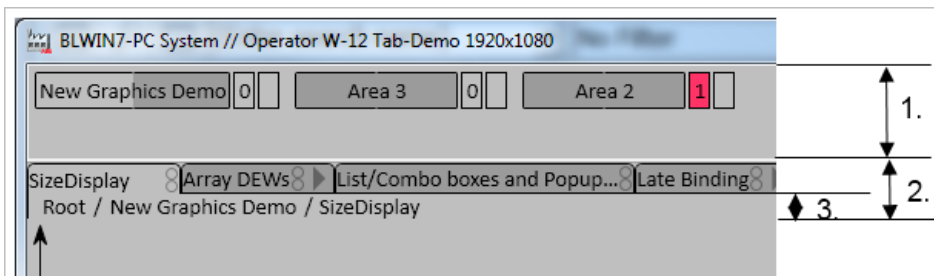

Figure 96. Heights. 1-Button Height, 2-Tab Height, 3-Breadcrumb Height
- **Height** - Specifies the height of the button area. This can be changed to view one or two rows of buttons when more number of buttons are being displayed within screen width. The button height decides the tab height. The tab height will be the pane height minus the button height (see Figure 96). If breadcrumbs are used, tab height will be pane height minus button height minus breadcrumb height. Tabs will always occupy the remaining space within a pane.
**Area Height** specifies the height of the breadcrumb list. The area height decides the tab height. The tab height will be the pane height minus the breadcrumb height (see Figure 96). To ensure the visibility of the tabs and the breadcrumb, the user must update the height specified for the tab in the **XML** tab of the **Screen Layout** aspect on the Tabbed Workplace object in the **Workplace Structure**.